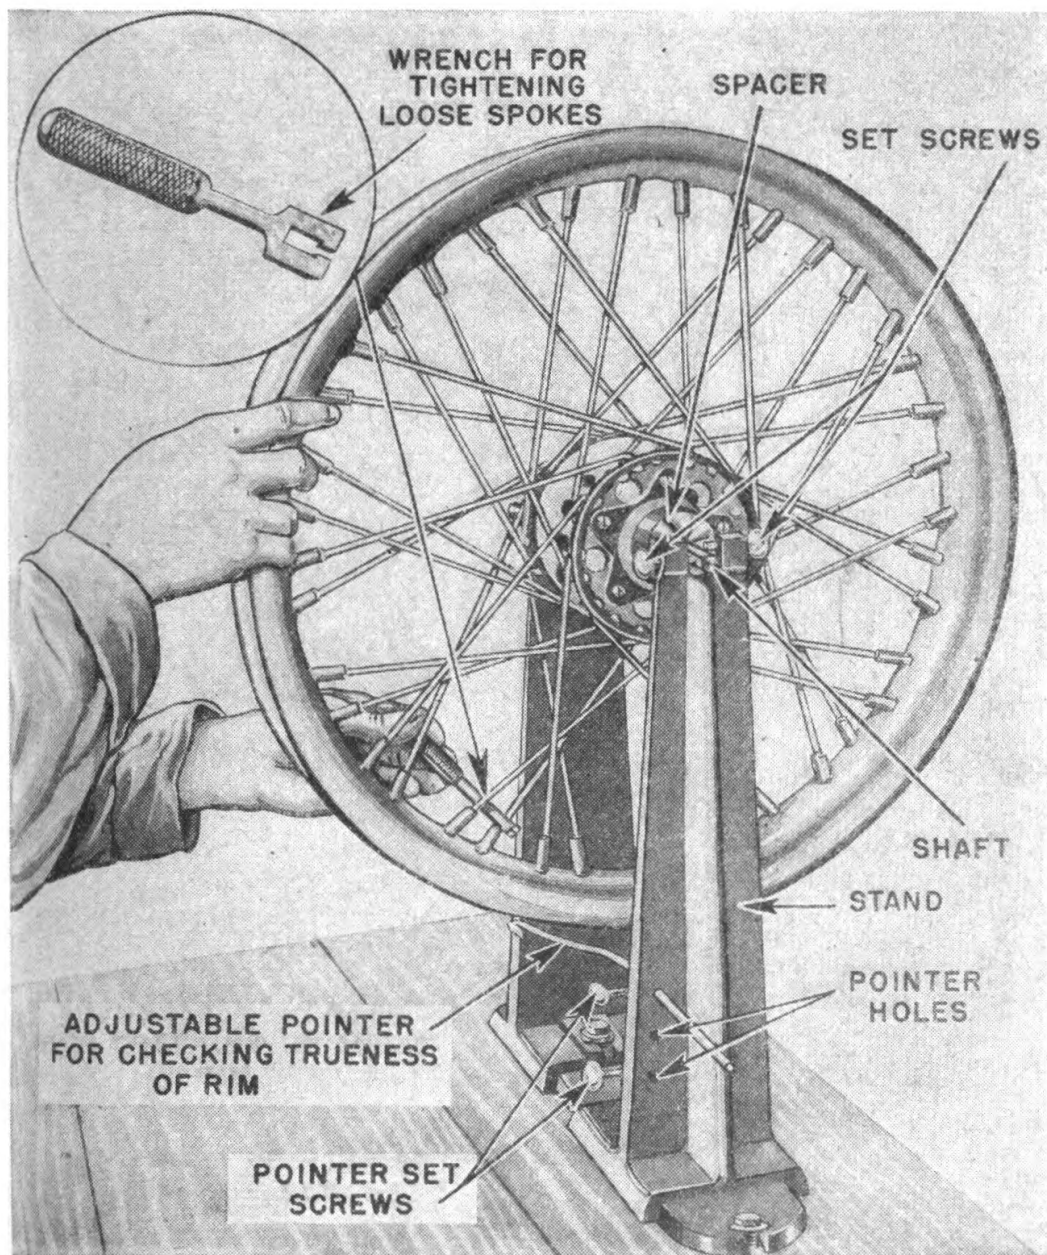

FIGURE 20.—Tightening loose spokes.
b. There are four sets of ten spokes each (40 in all) on a motorcycle wheel. The spokes are of strong steel wire which absorbs shock. One end of the spoke is enlarged; the other is threaded. The enlarged head anchors the spoke in a hole on the hub flange or on the brake drum. The threaded end screws into a nipple which is inserted in a counter-sunk hole in the well of the rim. The nipples are usually staggered so that the holes will not weaken the rim. The spokes are tightened to equal tension so that the wheel runs true. Since loose spokes may ruin the wheel in time, they should be checked carefully and wheels should be "trued up" every 6,000 miles by motorcycle mechanics. Figure 20 illustrates the method of tightening loose spokes. The